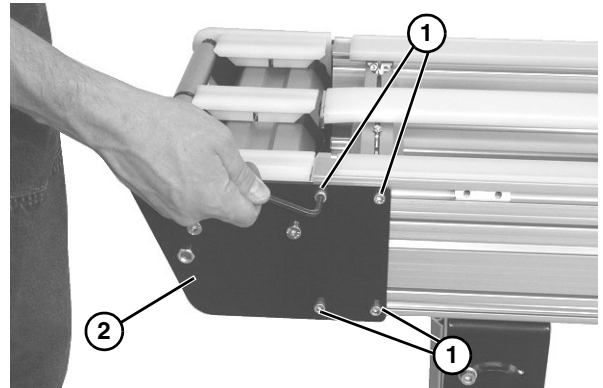

Figure 54
2. On one side of conveyor, loosen the four socket head screws (**Figure 54, item 1**). Repeat on opposite side.
3. Remove idler tail assembly (**Figure 54, item 2**).